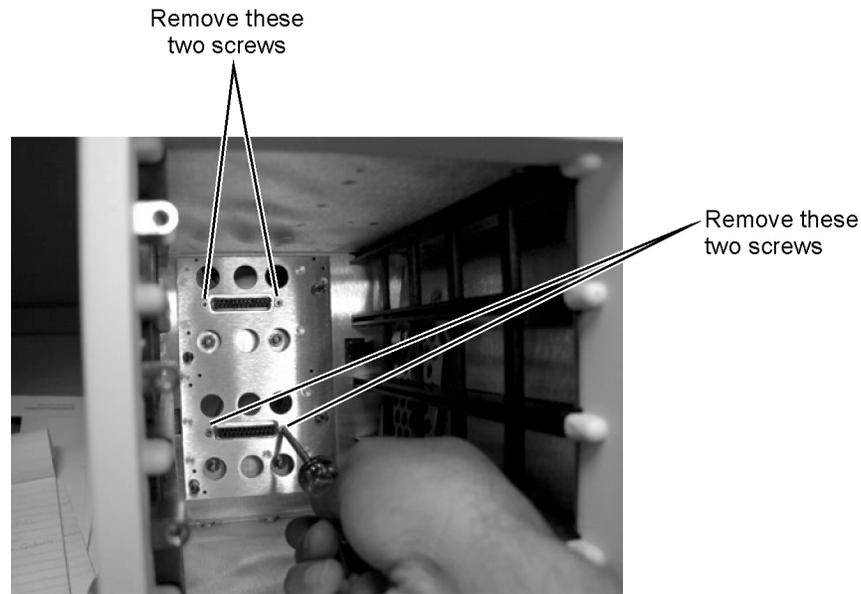

Figure 4-65. Removing Screws from Connectors in Module Drawer
- 4 Use a T-10 TORX driver to remove four screws from the connectors in the module drawer as shown in Figure 4-65.